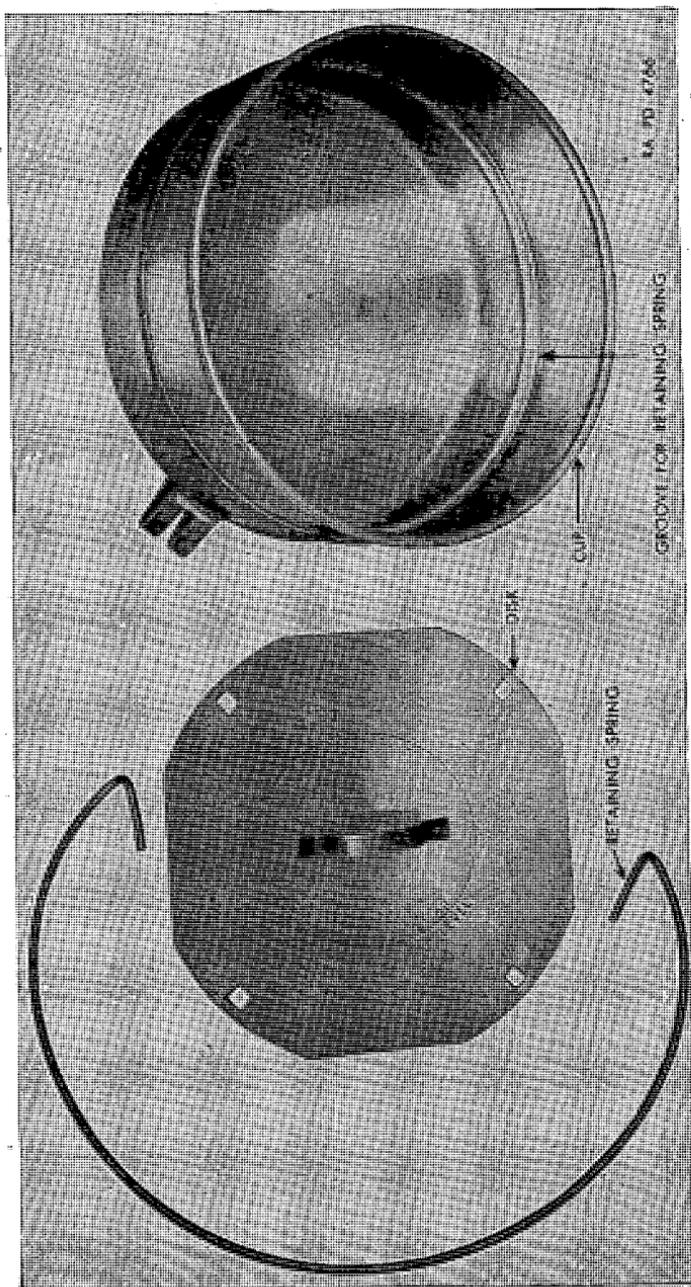

FIGURE 30.—Air cleaner parts requiring cleaning.
(4) Install throttle lever	Wrench, $\frac{1}{2}$ in., O. E. Pliers.	Place lever on carburetor throttle shaft, making certain that serrations slip into the same position as on removal. Install $\frac{3}{16}$ -in. hex-hd. nut and cotter pin.
(5) Connect fuel lines	Wrenches, $\frac{1}{2}$ in., $\frac{3}{16}$ in., $\frac{1}{16}$ in., $\frac{3}{4}$ in., O. E.	Connect fuel lines to carburetor.
(6) Install rocker arm oil scavenger line clamp.	Wrench, $\frac{3}{16}$ in., O. E.	Install $\frac{3}{16}$ -in. hex-hd. nuts on stud of carburetor holding oil line clamp.
(7) Install carburetor air horn.		See engine installation, par. 60b (14).
(8) Install inspection plate in floor of engine compartment.		See engine installation, par. 60b (15).
(9) Open fuel valves at tanks.
(10) Check all lines for leaks.
(11) Adjust carburetor		See b above for carburetor adjustment.
b. Maintenance.—After each 25-hour period of normal use, or daily, when conditions are extremely dusty, the air cleaner will be serviced as follows (fig. 30):
- (1) Loosen thumbscrews on cup retaining rods and remove cup.
- (2) Remove cup disk and retaining spring (fig. 30).
- (3) Empty oil and dirt and thoroughly clean cup, disk, and spring (fig. 30).
- (4) Carefully fill to oil level line with SAE 10 oil and replace cup disk and retaining spring.
- (5) Replace cup in cleaner and tighten retaining rod nuts.
c. Replacement.—(1) Loosen air cleaner outlet hose clamps and hose.